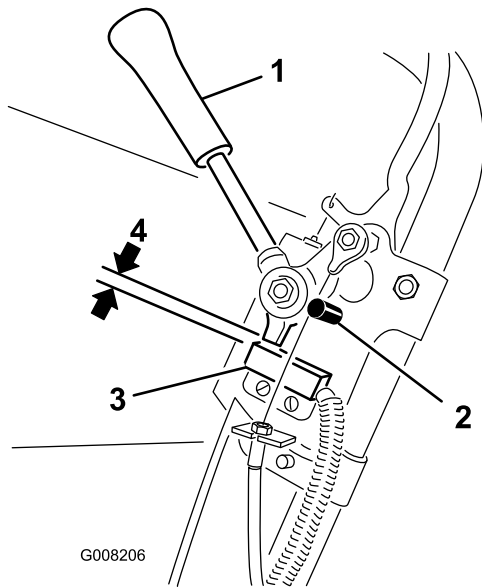

Figure 26
1. Make sure the engine is off and the traction lever is disengaged and resting against the neutral stop (Figure 26).
2. Loosen the interlock switch mounting fasteners (Figure 26).
3. Place a .032" thick shim between the traction lever and the interlock switch (Figure 26).